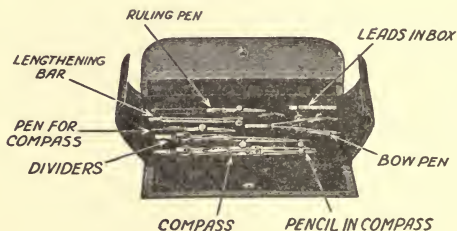

FIG. 46. THE DRAWING TOOLS YOU NEED
with pen and pencil points, and (3) one or more *ruling pens*. One of each of the above tools will be enough for you to begin with. A cheap set is shown in Fig. 46.